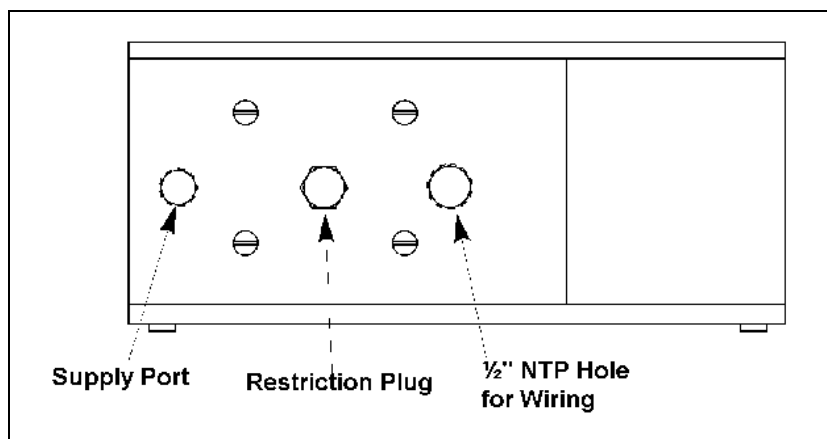

Figure 2 – Restriction Plug Location
1. Remove the restriction plug. (See Figure 2.)